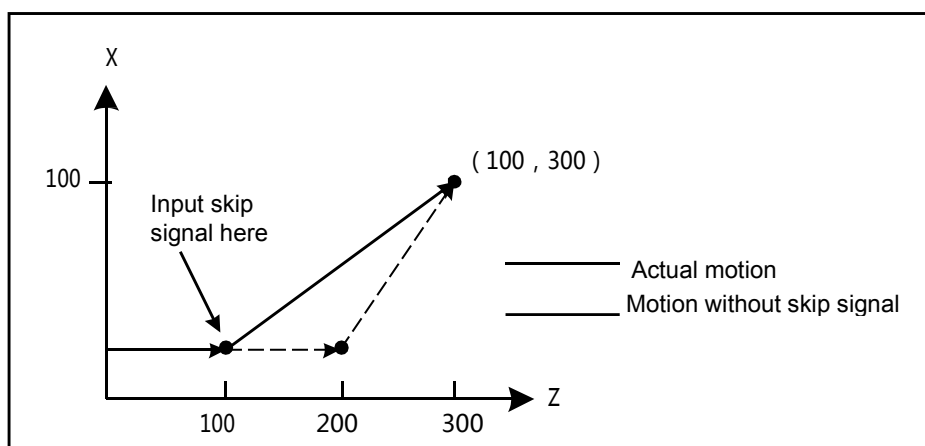

Fig. 3-15
3. The next block of G31 is the absolute coordinate programming of two axes shown in Fig. 3-15: